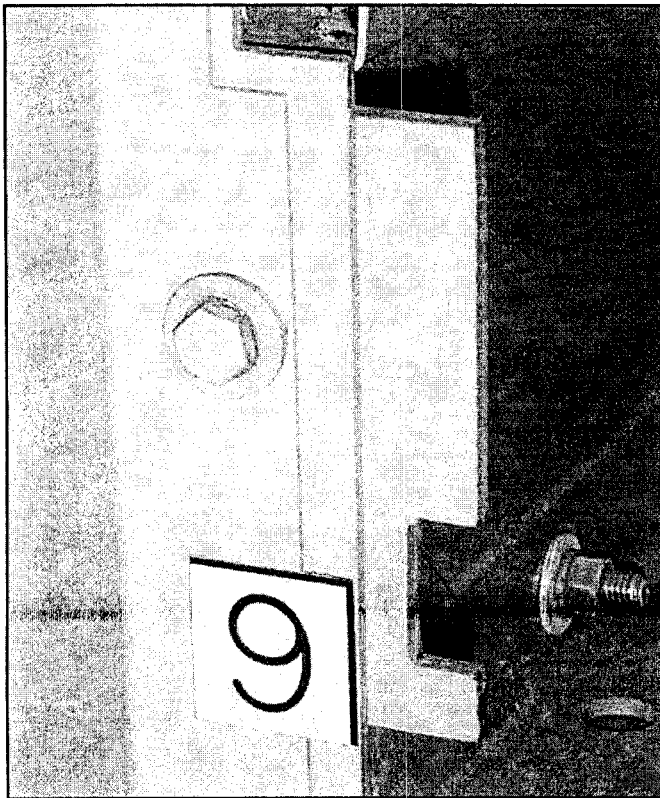
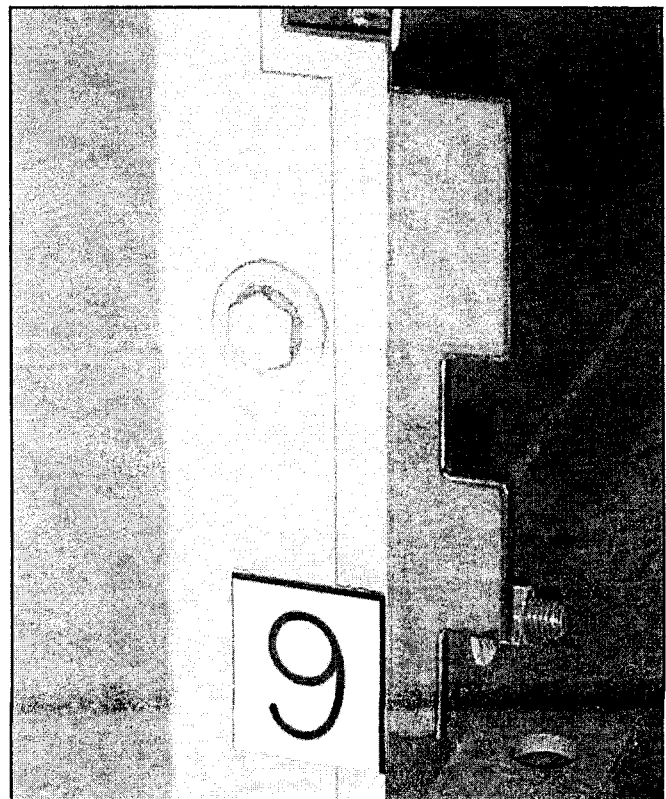

Figure 4-2 GE-AM-4.16-VR-250U-1200A Codeplate (Flipped)
Figure 4-3 GE AM-4.16-VR-250U-2000A Codeplate
2. Flip the code plate and reattach using the original hardware as shown in Figure 4.2 - 1200A and Figure 4.3 - 2000A.